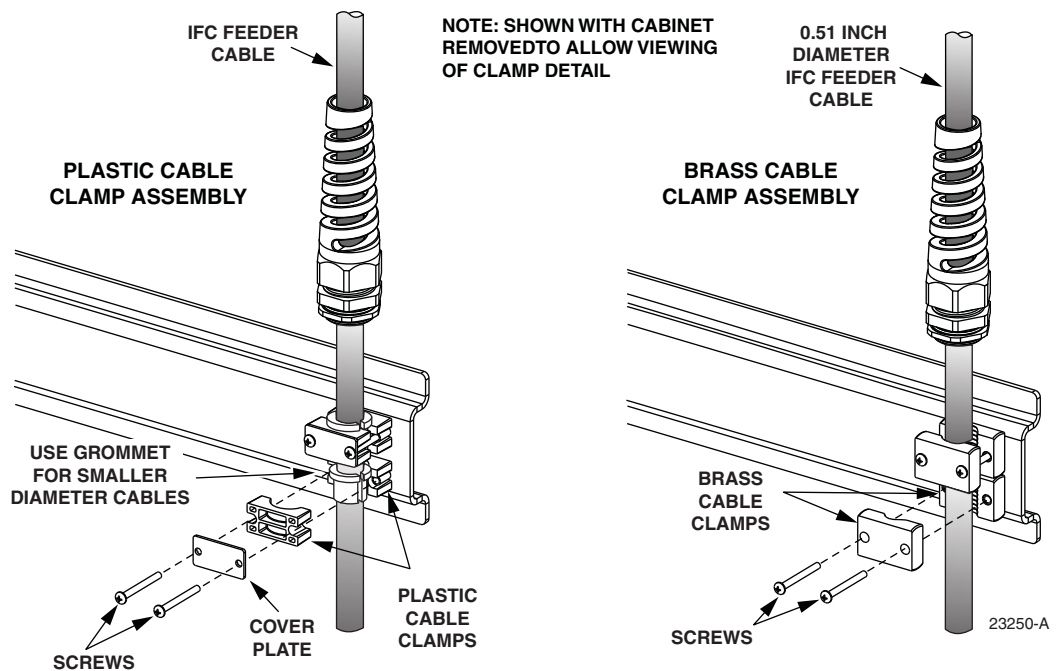

Figure 13. Assembling Feeder Cable Clamp
12. Depending on the cabinet option, either plastic or brass clamps will be provided with the cabinet. Assemble the cable clamps on the IFC feeder cable as shown in Figure 13.